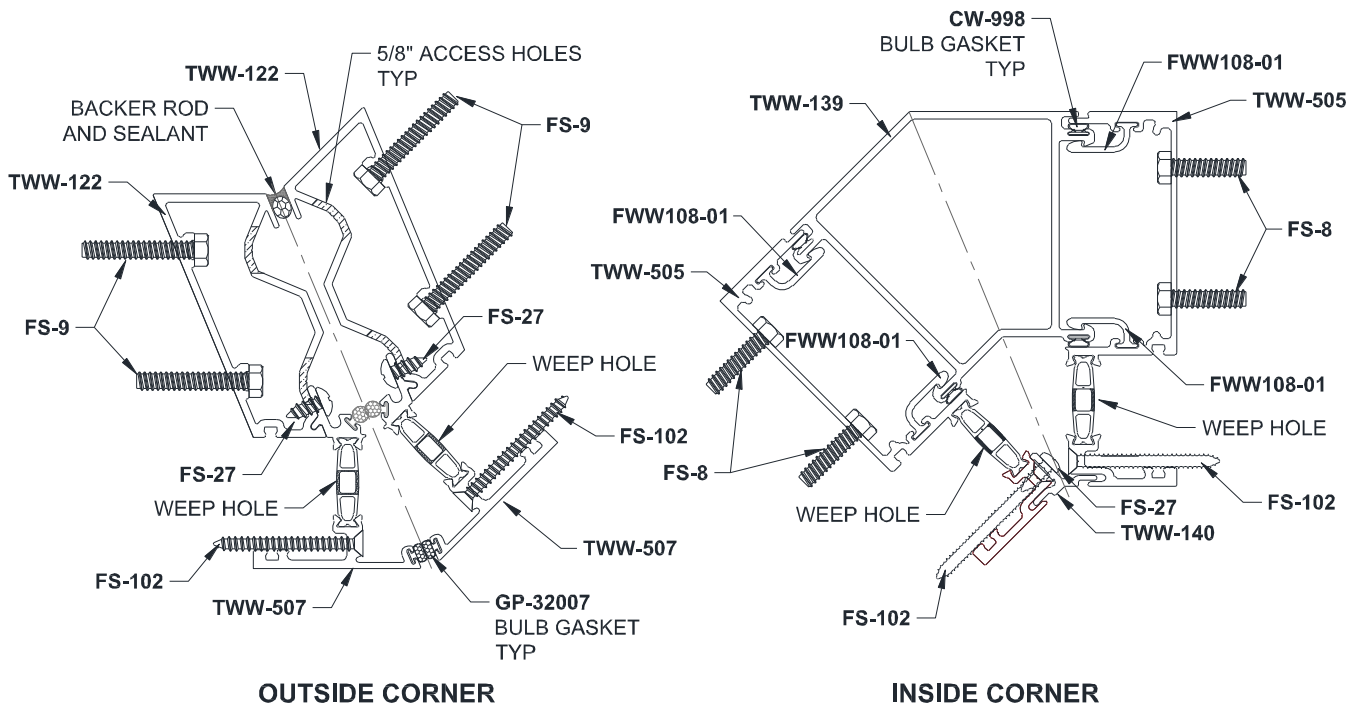

Figure 80: 135° Corners
- 21.3 For 135° corners, reference Figure 80 for connection detail and fastener information.